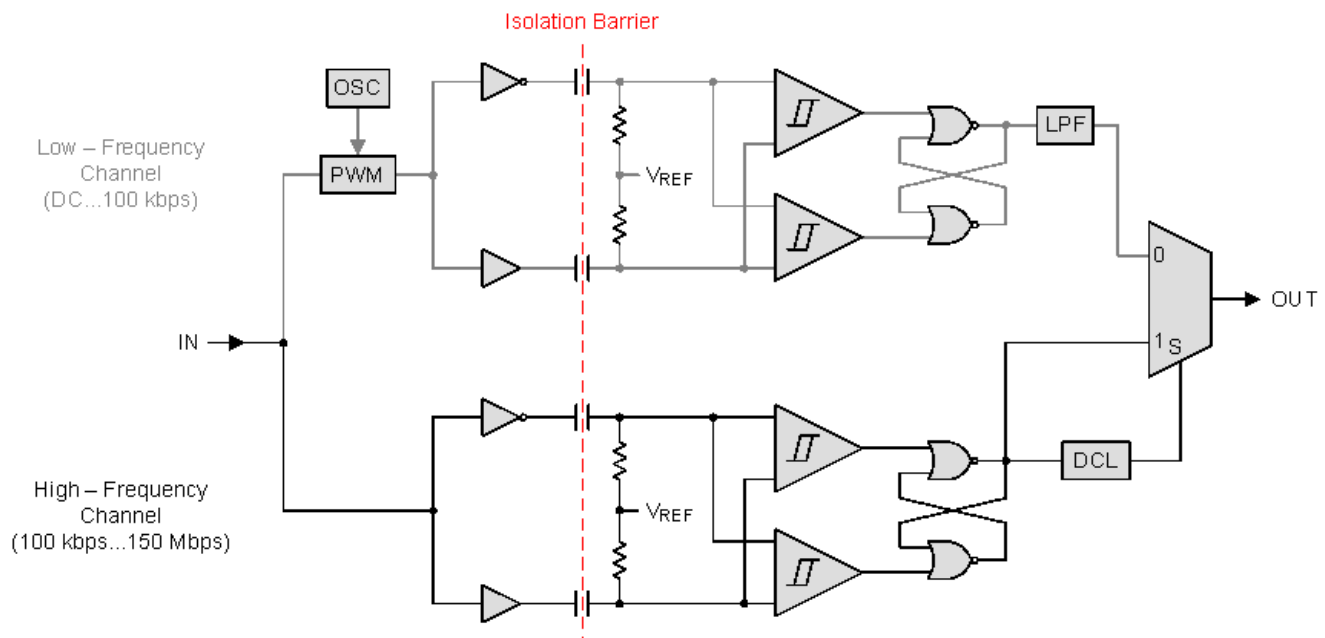

图 13. Conceptual Block Diagram of a Digital Capacitive Isolator
The isolator in 图 13 is based on a capacitive isolation barrier technique. The I/O channel of the device consists of two internal data channels, a high-frequency channel (HF) with a bandwidth from 100 kbps up to 150 Mbps, and a low-frequency channel (LF) covering the range from 100 kbps down to DC. In principle, a single-ended input signal entering the HF-channel is split into a differential signal via the inverter gate at the input. The following capacitor-resistor networks differentiate the signal into transients, which then are converted into differential pulses by two comparators. The comparator outputs drive a NOR-gate flip-flop whose output feeds an output multiplexer. A decision logic (DCL) at the driving output of the flip-flop measures the durations between signal transients. If the duration between two consecutive transients exceeds a certain time limit, (as in the case of a low-frequency signal), the DCL forces the output-multiplexer to switch from the high- to the low-frequency channel.